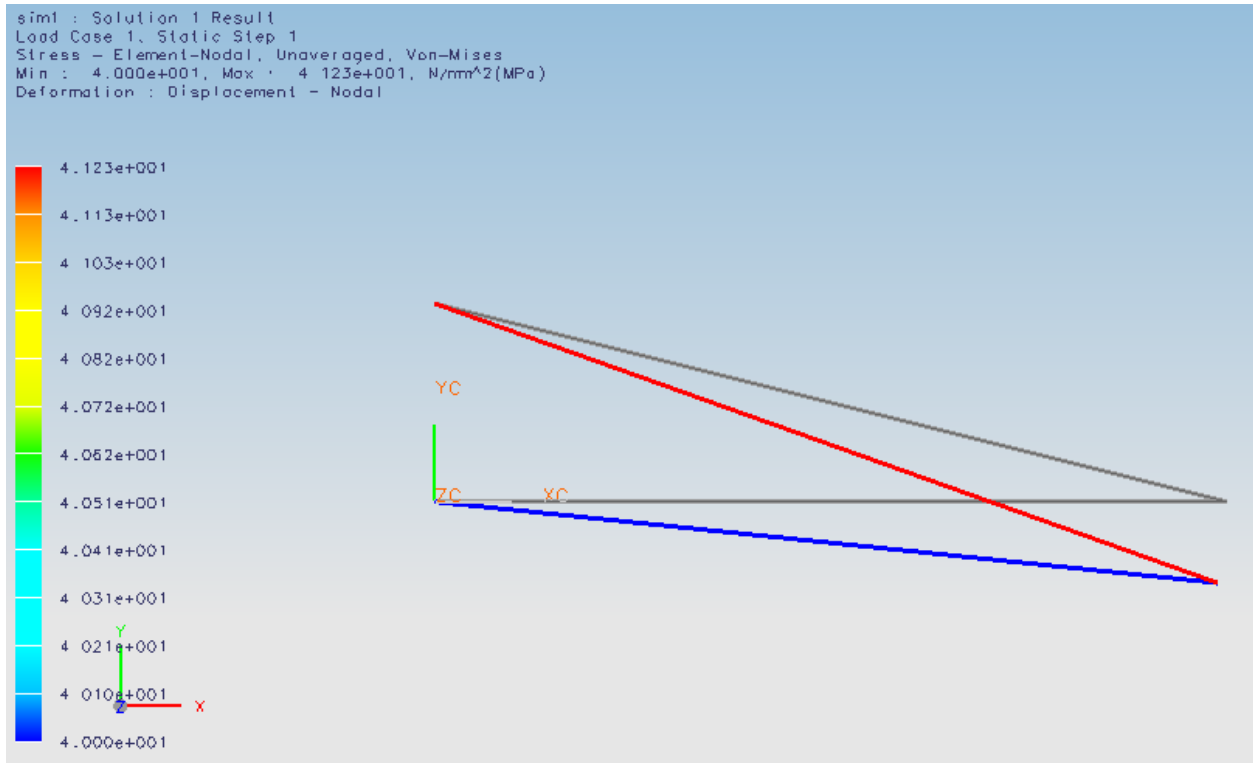

Figure 11. Stress Output
- d) To view the stresses, double-click on “Stress – Element-Nodal” in the “Post-Processing Navigator”. The stresses in the two elements should appear as two solid colors as shown in Figure 11. If they do not, expand “Stress – Element-Nodal” and double-click on “Von-Mises”.
- b. In the hand calculations, the stress in the top bar should be 41 MPa and the stress in the bottom bar should be 40 MPa. This corresponds exactly with the results shown in Figure 11 (which are in MPa).